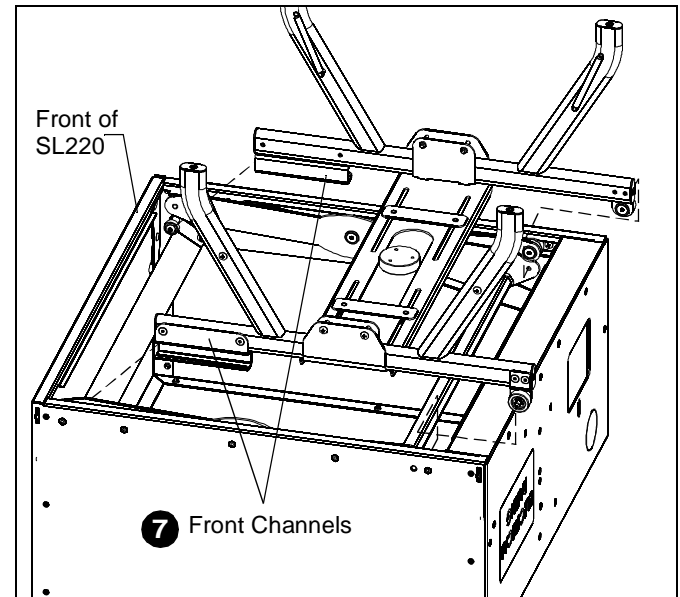

Figure 9
7. Slide front channels of previously removed projector cradle forward onto the SL220 bearings. (See Figure 9)